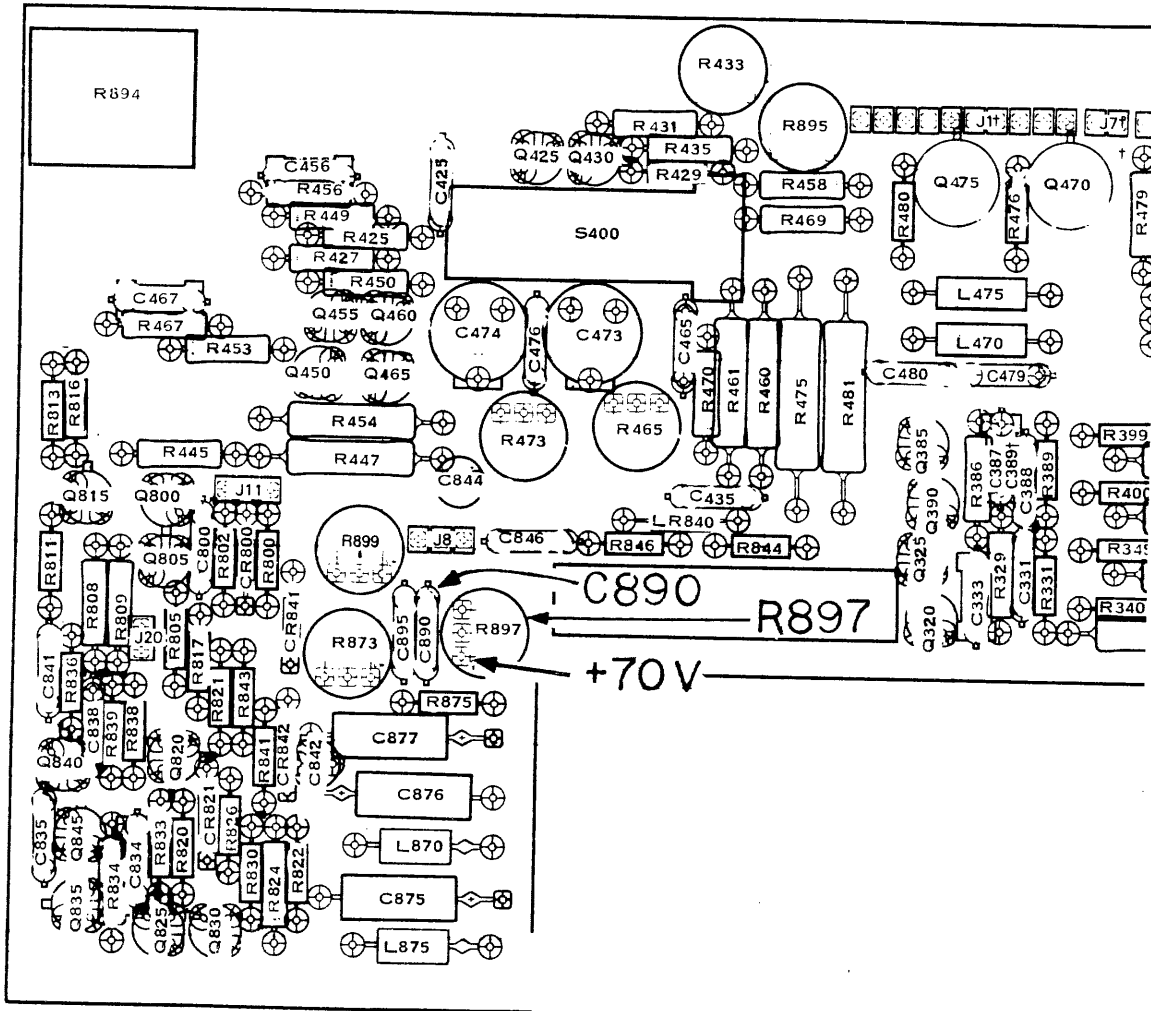

Fig. 1 Partial - F & I circuit board
- ( ) 2. Remove the Geometry adjust potentiometer, R897 (see Fig. 1).
- ( ) 4. If your instrument has a red-violet wire soldered to the board at the location labeled +70V in Fig. 1, remove the wire from the board, and remove it from the pin in the crt socket to which it connects.